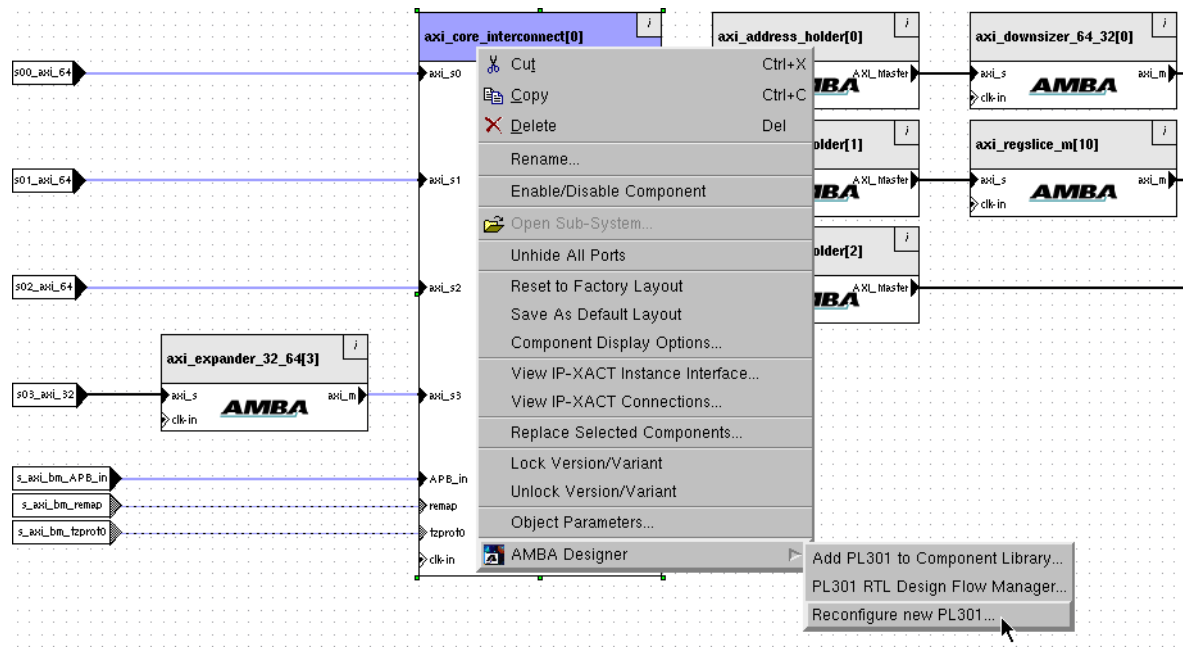

Figure 4-47 PL301 Reconfiguration selection
4. Select **AMBA Designer** → **PL301 Reconfiguration...** from the context menu, as Figure 4-47 on page 4-52 shows. This opens the PL301 Reconfiguration dialog box.